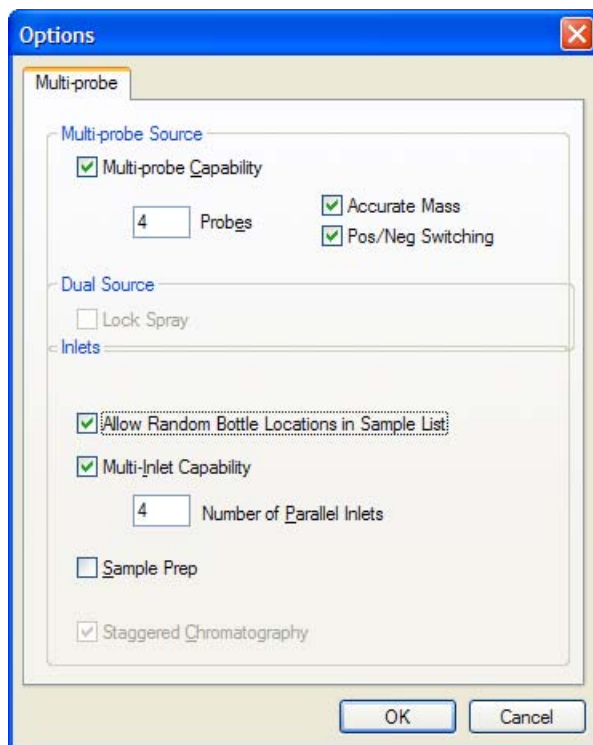

Figure 7-8 Options Dialog Box
1. On the MassLynx window, click the Instrument shortcut bar's Options icon to open the Options dialog box (Figure 7-8).